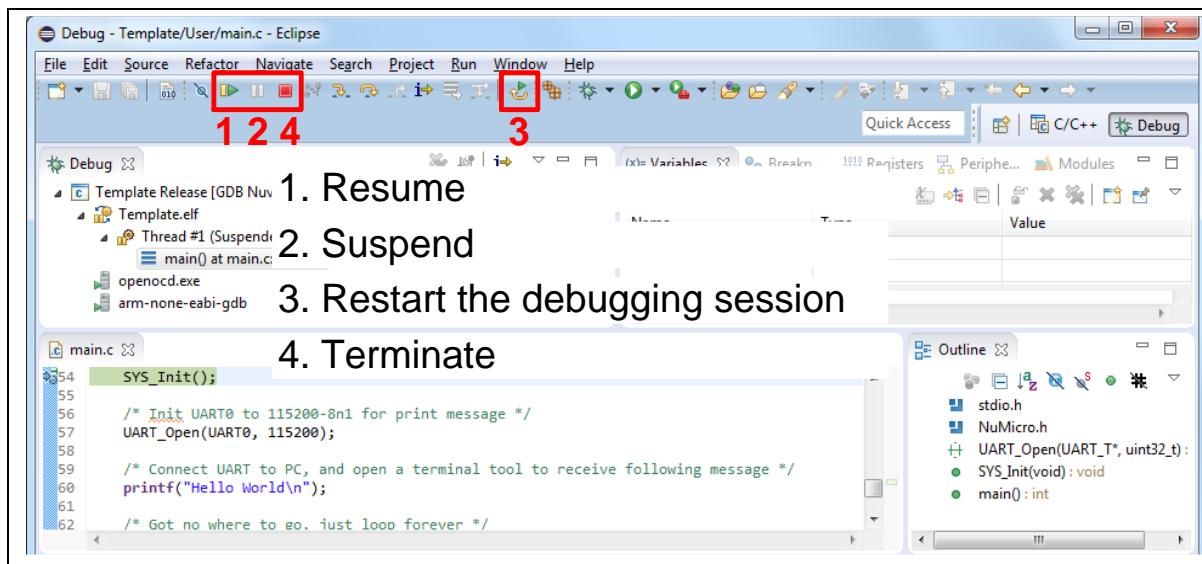

Figure 4-28 NuEclipse Debug Mode
6. Figure 4-28 shows the debug mode under NuEclipse. Click “Resume” and the debug message will be printed out as shown in Figure 4-29. User can debug the project under debug mode by checking source code, assembly language, peripherals’ registers, and setting breakpoint, step run, value monitor, etc. For more information about how to use NuEclipse, please refer to the NuEclipse User Manual.